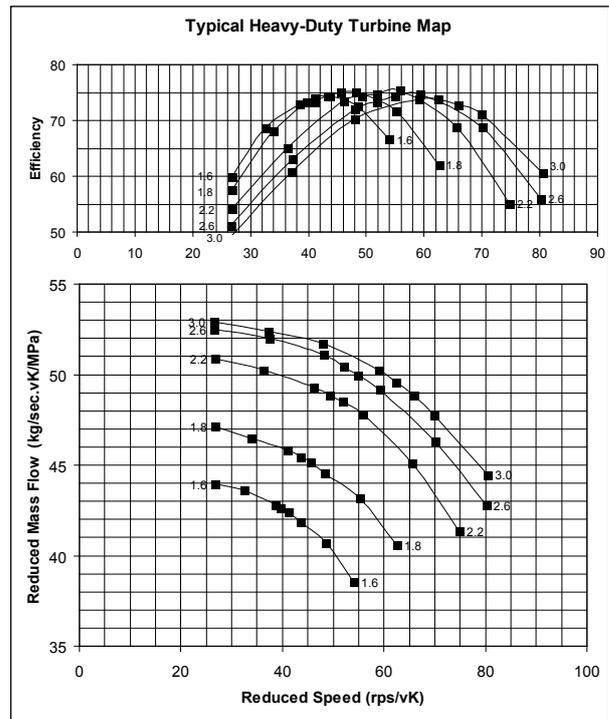

Fig 2 - Typical heavy-duty turbine map
- 2) A full turbine map (figure 2) contains more data about speed and operating points away from peak efficiency. These measurements have to be made on a turbine dynamometer; Cummins Turbo Technologies is one of the very few test facilities with this capability (see article on turbine performance mapping in HTi edition 7).